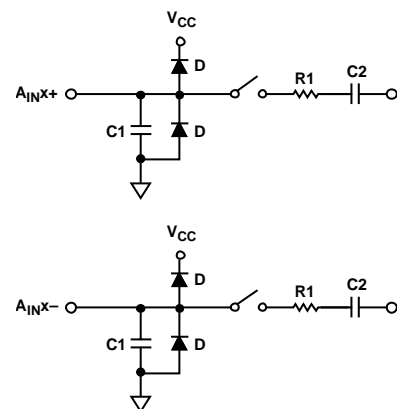

Figure 33. Equivalent Analog Input Circuit, Conversion Phase—Switches Open, Track Phase—Switches Closed
Figure 33 shows the equivalent analog input circuit of the AD4682 and the AD4683. The four diodes (D) provide ESD protection for the analog inputs. Ensure that the analog input signals do not exceed the supply rails by more than 300 mV. Exceeding the limit causes these diodes to become forward-biased and start conducting into the substrate. These diodes can conduct up to 10 mA without causing irreversible damage to the devices.
The  $C_1$  capacitors in Figure 33 are typically 3 pF and can primarily be attributed to pin capacitance. The  $R_1$  resistors are lumped components made up of the on resistance of the switches. The value of these resistors is typically about 200  $\Omega$ . The  $C_2$  capacitors are sampling capacitors of the ADC with a capacitance of 15 pF typically.